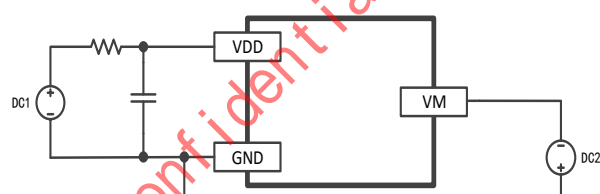

Figure6-4
- a. According to the figure6-4, connect the DC1 power supply to the B + and GND pins of the system board and set the voltage to about 3.0V/3.6V/4.2V, and load DC2 power supply from GND to VM.